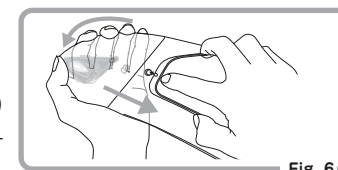

Fig. 6
- Remove the Pinlock® Original Insert Lens from the eccentric pins with flexing the shield.(Fig.6)